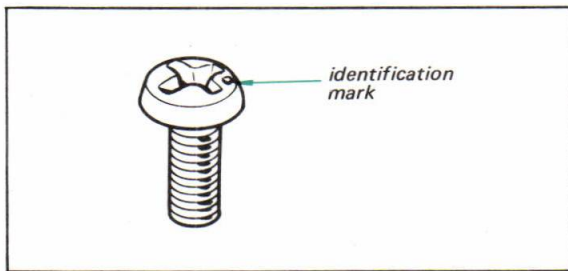

Fig. 2-1. ISO screw
**Note:** All screws in the STR-6046 are manufactured to the specifications of International Organization for Standardization (ISO). This means that the new and old screws are not interchangeable because ISO screws have a different number of threads per mm compared to the old ones. The ISO screws have an identification mark on their heads as shown in Fig. 2-1.